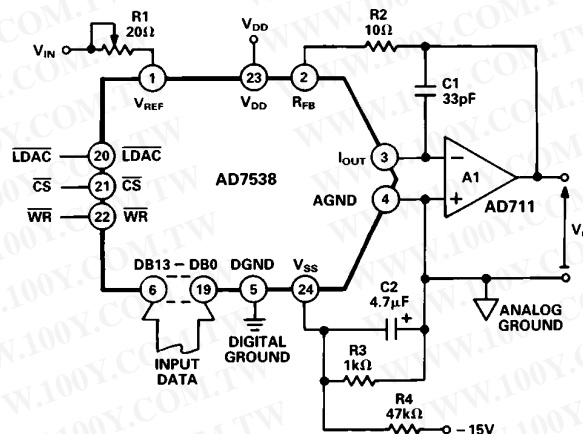
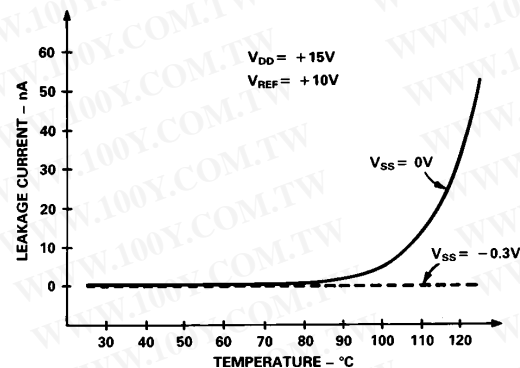

Figure 4. Unipolar Binary Operation
Figure 6. Graph of Typical Leakage Current vs. Temperature for AD7538
Figure 4 shows the circuit diagram for unipolar binary operation. With an ac input, the circuit performs 2 quadrant multiplication. The code table for Figure 4 is given in Table I.
$V_{SS}$  should be tied to a voltage of approximately -0.3 V as in Figures 4 and 5. A simple resistor divider (R3, R4) produces approximately -300 mV from -15 V. The capacitor C2 in parallel with R3 is an integral part of the low leakage configuration and must be 4.7  $\mu$ F or greater. Figure 6 is a plot of leakage current versus temperature for both conditions. It clearly shows the improvement gained by using the low leakage configuration.
**Output Offset:** CMOS D/A converters in circuits such as Figures 4 and 5 exhibit a code dependent output resistance which in turn can cause a code dependent error voltage at the output of the amplifier. The maximum amplitude of this error, which adds to the D/A converter nonlinearity, depends on  $V_{OS}$ , where  $V_{OS}$  is the amplifier input offset voltage. To maintain specified accuracy with  $V_{REF}$  at 10 V, it is recommended that  $V_{OS}$  be no greater than 0.25 mV, or  $(25 \times 10^{-6}) (V_{REF})$ , over the temperature range of operation. The AD711 is a suitable op amp. The op amp has a wide bandwidth and high slew rate and is recommended for ac and other applications requiring fast settling.